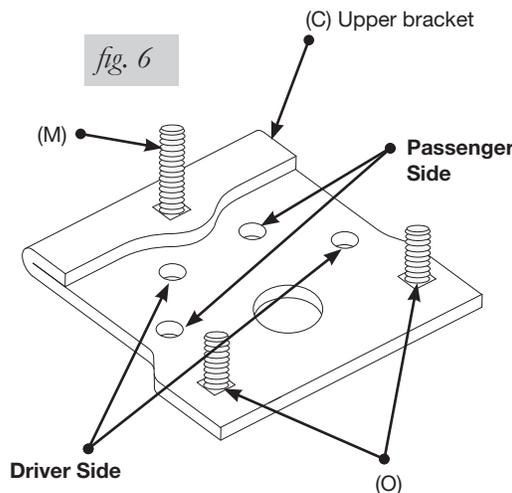

fig. 6
4. Insert two 3/8"-16 x 1.25" carriage bolts (O) up through the bottom of the upper brackets (Fig. 6), through the two square holes that are on the corresponding side. Also, insert one 3/8"-16 x 2.5" carriage bolt (M) through the remaining hole. The head of this carriage bolt will be hidden once mounted to the bellows.
5. Set the driver side (left) upper bracket onto the driver side bellows assembly previously assembled, using the holes in the upper bracket designated (Fig. 6), and attach to the bellows with two 3/8" flat washers (U), lock washers (CC), and 3/8"-24 x 7/8" hex head cap screws (BB). Tighten both mounting screws securely.